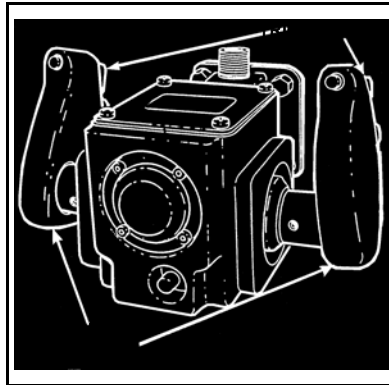

Figure 1. Gunner's control handles.
5. Squeeze the trigger on the gunner's control handles (Figure 1, page 3-148).